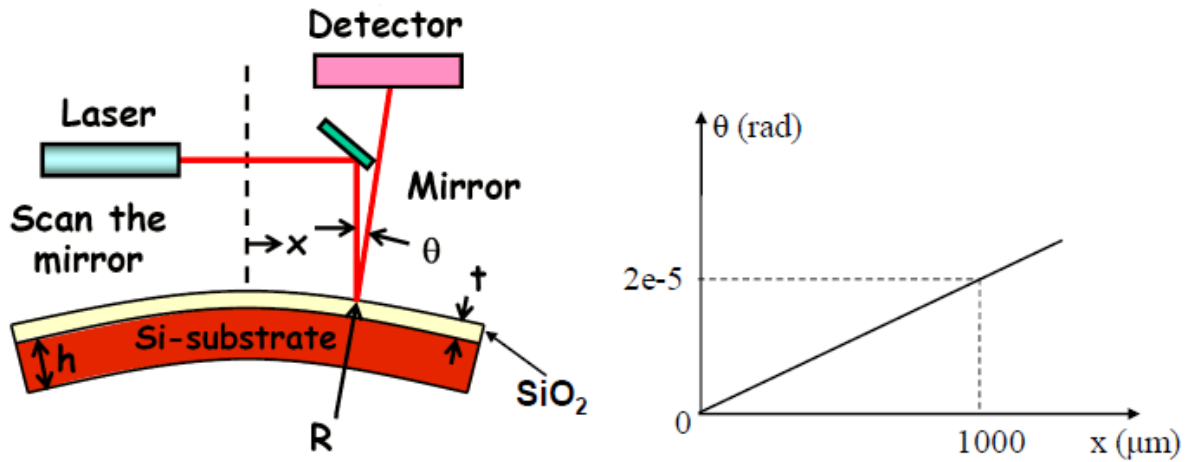

Fig. PS3.1
1. In the Berkeley Nanolab, a tool called the Flexus can be used to determine the stress on a thin film deposited on a silicon wafer by measuring the wafer curvature. Fig. PS3.1 below presents a schematic illustration of the Flexus and its measurement mechanism, together with a typical measured result. As shown, the Flexus simply measures the angle between the wafer surface and a laser beam directed straight down, allowing one to extract the slope of the ensuing θ vs. x curve.
Suppose the measured curve shown in Fig. PS3.1 is for a $1 \mu\text{m}$ silicon dioxide deposited on a $4''$ $525 \mu\text{m}$ -thick bare silicon wafer at 400°C .